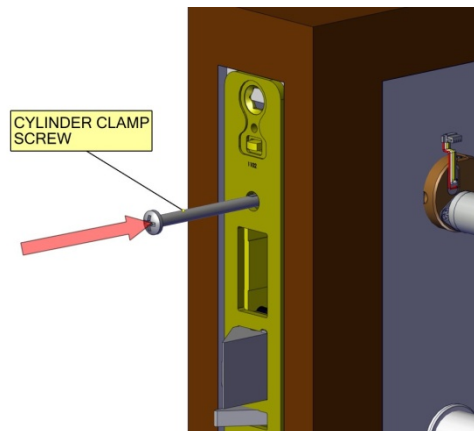

Fig. 7
Step 3: Re-tighten the cylinder clamp screw with the M100 in a vertical position. The screw should engage tightly in the slot along the edge of the cylinder so the cylinder cannot rotate (Fig. 7).